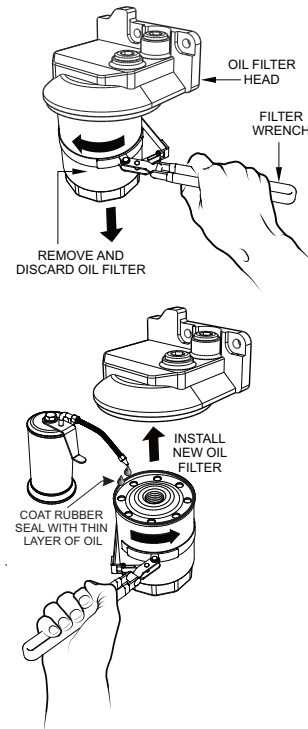

Figure 66. Engine Oil Filter Removal
1. Using an oil filter wrench (Figure 66), remove the engine oil filter.
3. Coat the rubber seal (gasket) surface of the new oil filter (Figure 66) with clean 15W-40 engine oil.